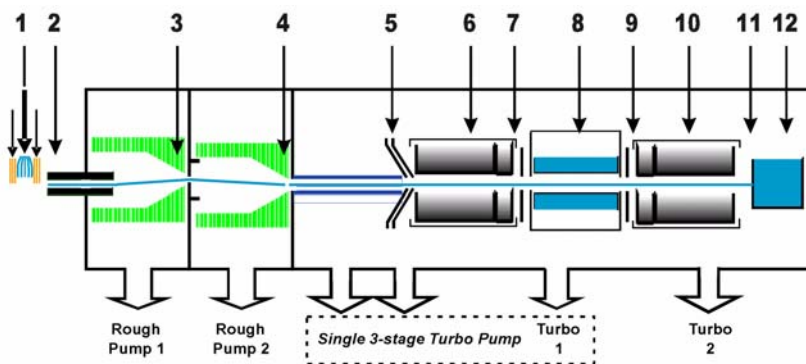

Figure 16 Multiple sources of noise
Triple quadrupole mass spectrometers exhibit multiple sources of noise, including noise from all chemical and cluster backgrounds and electronic noise (Figure 16).
The problem of noise must be addressed at several stages of the instrumentation from the ion source (1) to the detector (10) in Figure 16.
This section describes in more detail how each of the components of the Agilent 6400 Series Triple Quadrupole MS contributes to reducing noise (Figure 16).